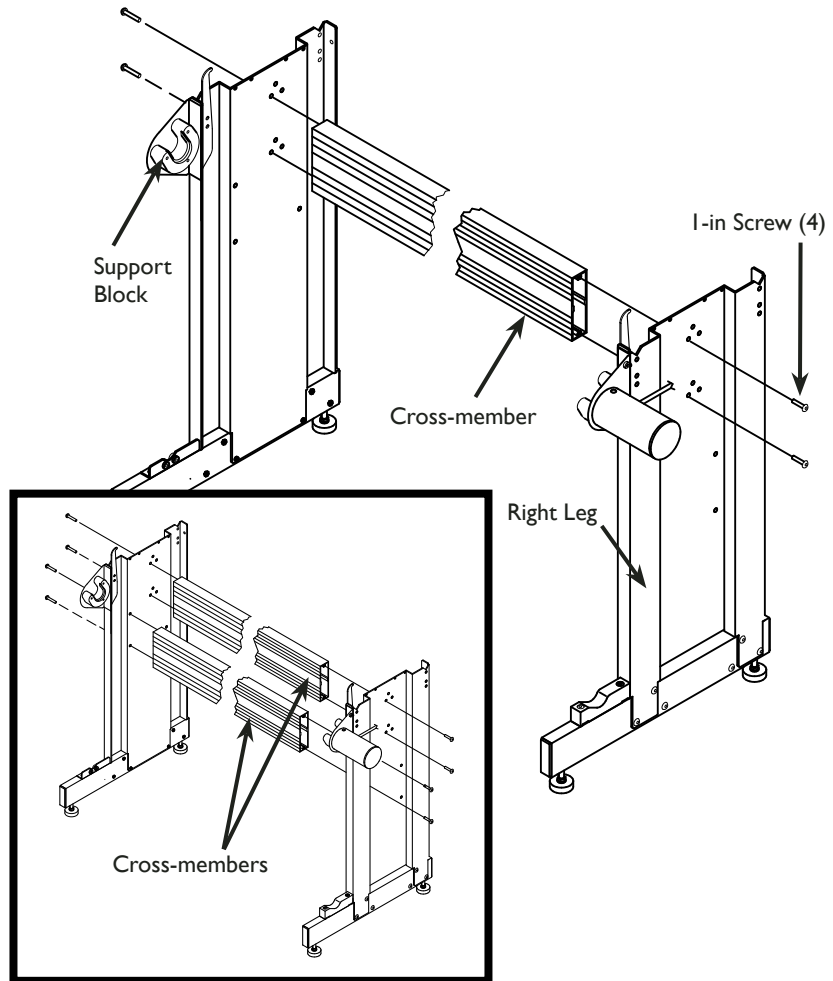

Figure 5. Proper placement of the cross-member on FJ model (above) and two cross-members on the FJ-eX model (inset in box).
1. Examine the diagrams showing proper placement of the cross-member in **Figures 5, 6 & 7** before proceeding with assembly.
7. Tighten the four screws that hold the end plates to the stand legs as shown in **Figure 5**. Use the supplied hex wrench.